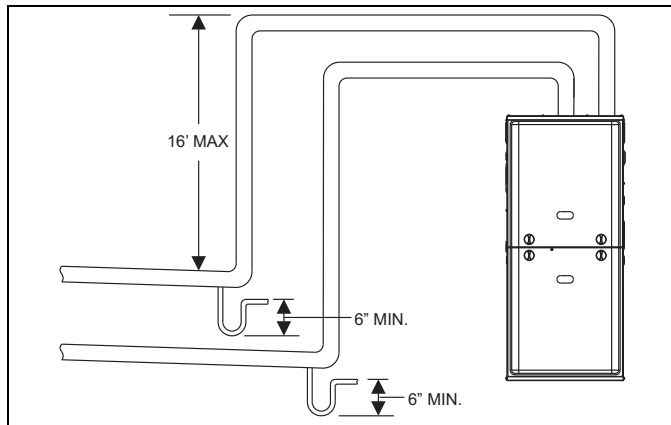

FIGURE 40: Downward Venting
1. **OUTDOOR COMBUSTION AIR:** This is a direct vent configuration where the combustion air is supplied through a PVC or ABS pipe that is connected to the PVC coupling attached to the furnace and is terminated in the same atmospheric zone as the vent. This type of installation is approved on all models. Refer to Figure 40.
This installation requires combustion air to be brought in from outdoors. This requires a properly sized pipe (Shown in Figure 40) that will bring air in from the outdoors to the furnace combustion air intake collar on the burner box. The second pipe (Shown in Figure 40) is the furnace vent pipe.